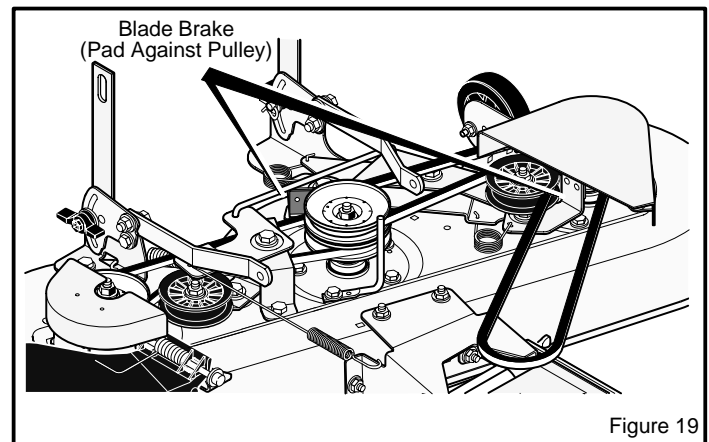

Figure 19
8. Move the **blade rotation control** to the **DISENGAGE** position. **Stop the engine**. Disconnect the wire from the spark plug. Check the operation of the **blade brake**. Rotate the pulleys with your hand. Make sure the **brake pads** are pressed tightly against the pulleys (Figure 19).